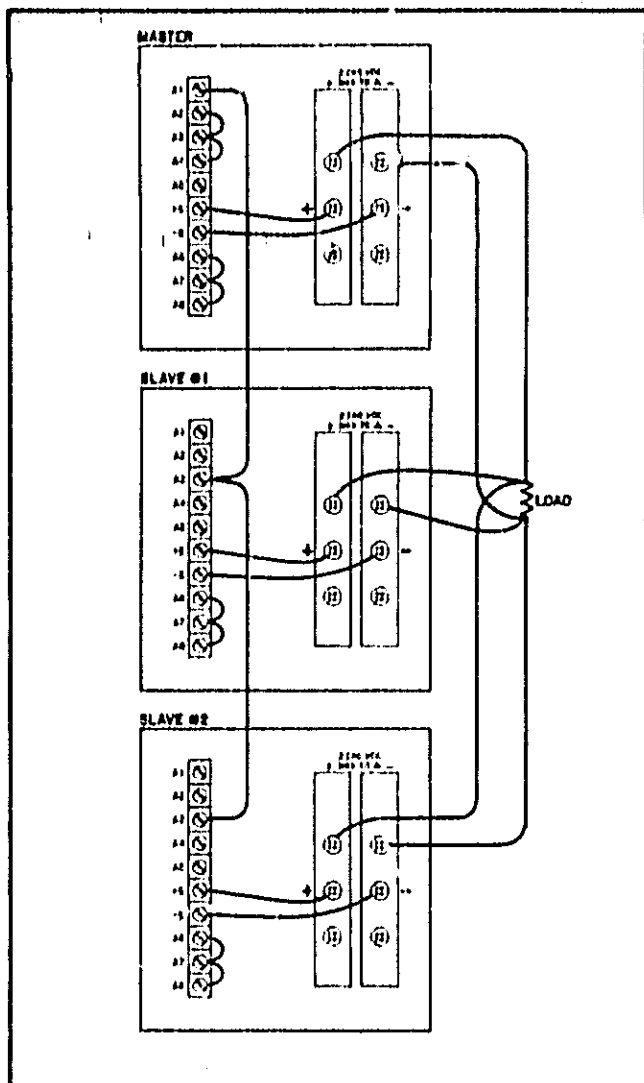

Figure 3-14. Auto-Parallel Operation
**3-62** Figure 3-14 shows the rear-panel interconnections required to auto-parallel two or more units. This mode of operation provides a greater current capability than can be obtained from a single supply, while ensuring that each supply will share the load proportionally to its own total power capability under all load conditions. For example, if a 1000W supply and a 200W supply were auto-parallelled, the 1000W supply would provide 5/6 the total current and the 200W supply would provide 1/6 the total current. The 6012A can be auto-parallelled only with other autoranging units, or with units that have current-monitoring output signals that are internally referenced to the -- output and equal to +5V at maximum rated current output. Any number of supplies may be connected in auto-parallel.